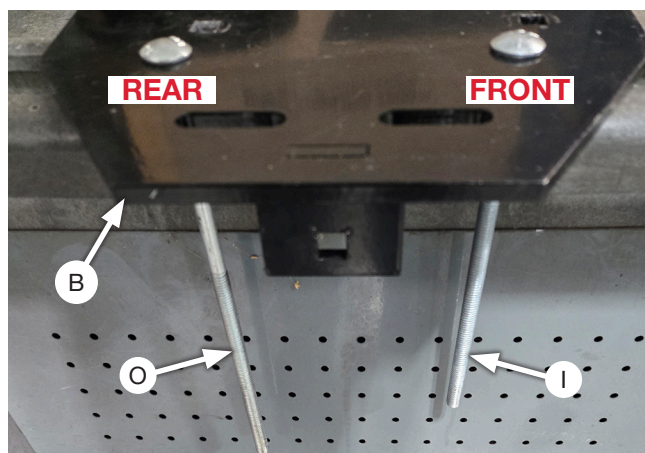

Fig. 12
5. Insert one (1) 3/8"-16 x 10" carriage bolt (O) through the rear remaining square hole and (1) 3/8"-16 x 8" (I) through the front remaining square hole in the lower bracket (B), both sides will be a mirror of each other. (Fig. 12)